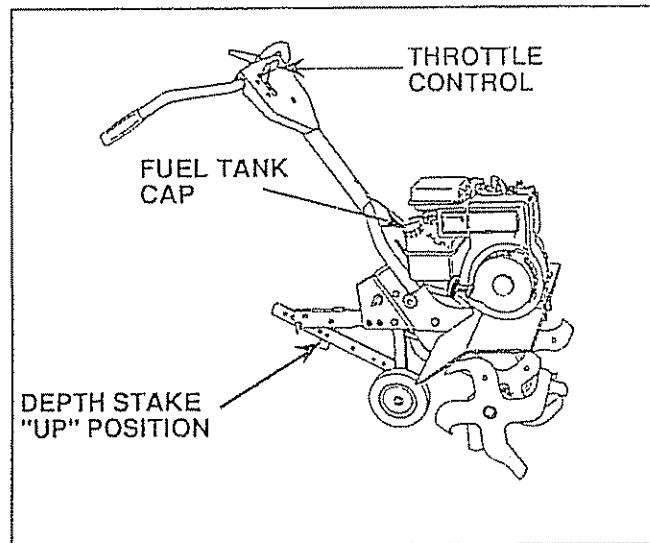

FIGURE 10
- For normal cultivating, set Depth Stake in the "up" position (Fig. 10).
- Tip Depth Stake forward until it is held by the Stake Spring (Fig. 10).
- To fill Fuel Tank (Fig. 10), use fresh, clean regular unleaded automotive gasoline. Capacity is about 2 quarts.